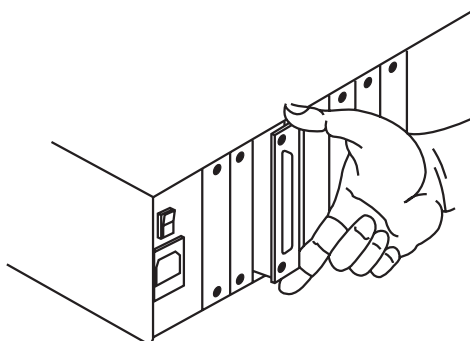

Figure 3-2. Inserting a User-Interface Card in the Switch.
4. If you look into the open slot on the Switch, you will see “guide tracks” that the top and bottom of the Card should slide along when you install it. Slide new User-Interface Card gently into the slot along these tracks, until the Card’s HD62 connector lines up flush with the back of the unit, as shown in Figure 3-2.